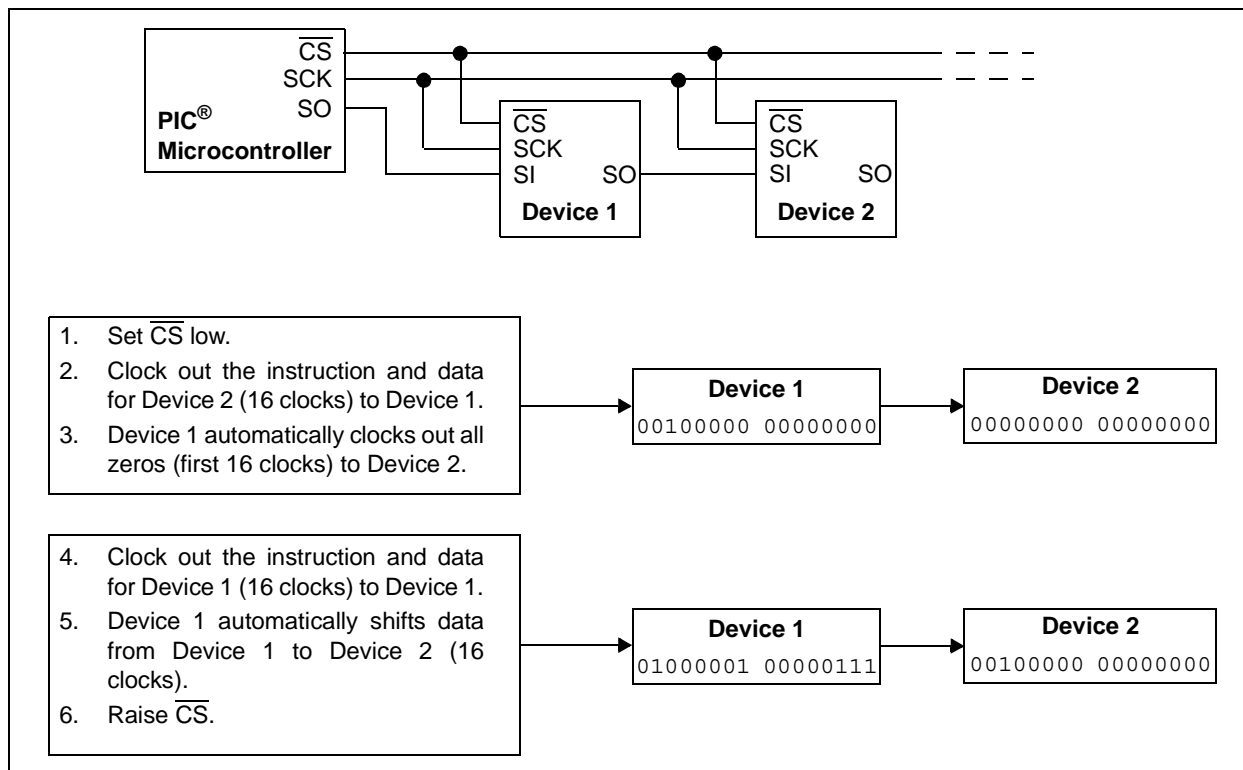

FIGURE 5-3: Daisy Chain Configuration.
Multiple devices can be connected in a daisy chain configuration by connecting the SO pin from one device to the SI pin on the next device and using common SCK and \overline{CS} lines (Figure 5-3). This approach reduces PCB layout complexity.
The example in Figure 5-3 shows a daisy chain configuration with two devices, although any number of devices can be configured this way. The MCP6S21 and MCP6S22 can only be used at the far end of the daisy chain because they do not have a serial data out (SO) pin. As shown in Figure 5-4 and Figure 5-5, both SI and SO data are sent in 16-bit (2 byte) words. These devices abort any command that is not a multiple of 16 bits.